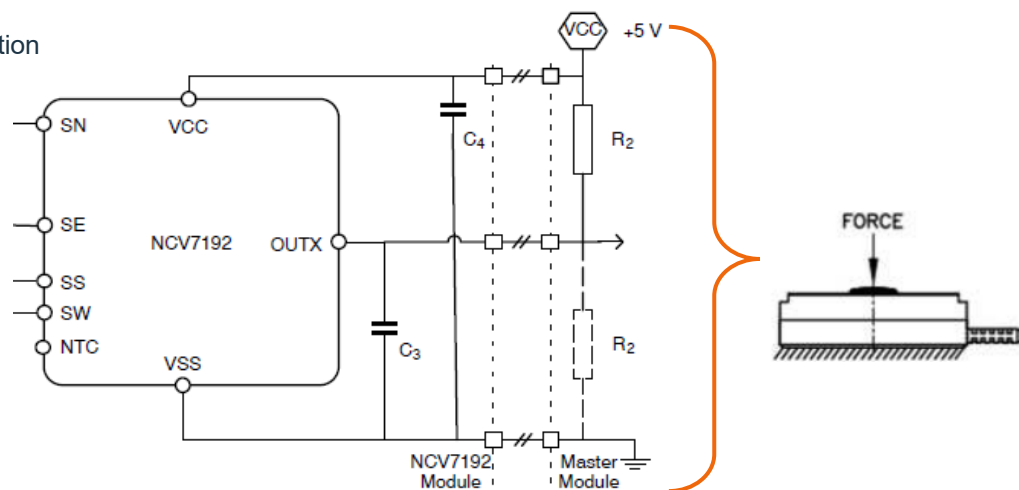

Fig. 7: LPF + Gain (2x) + ADC + DSP + LPF
- 6,000 RPM full accuracy (45,000 maximum RPM) ± 50 arcsec (0.0138 degree) or better accuracy for a 38mm sensor - see figure 7.